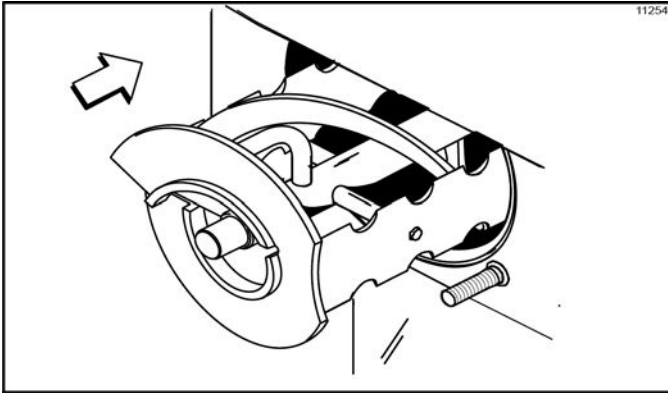

Figure 6-5
5. Holding the blades on the beater assembly, insert the beater assembly in the freezing cylinder. Engage the shaft end firmly into the driveshaft socket. (See Figure 6-5.)